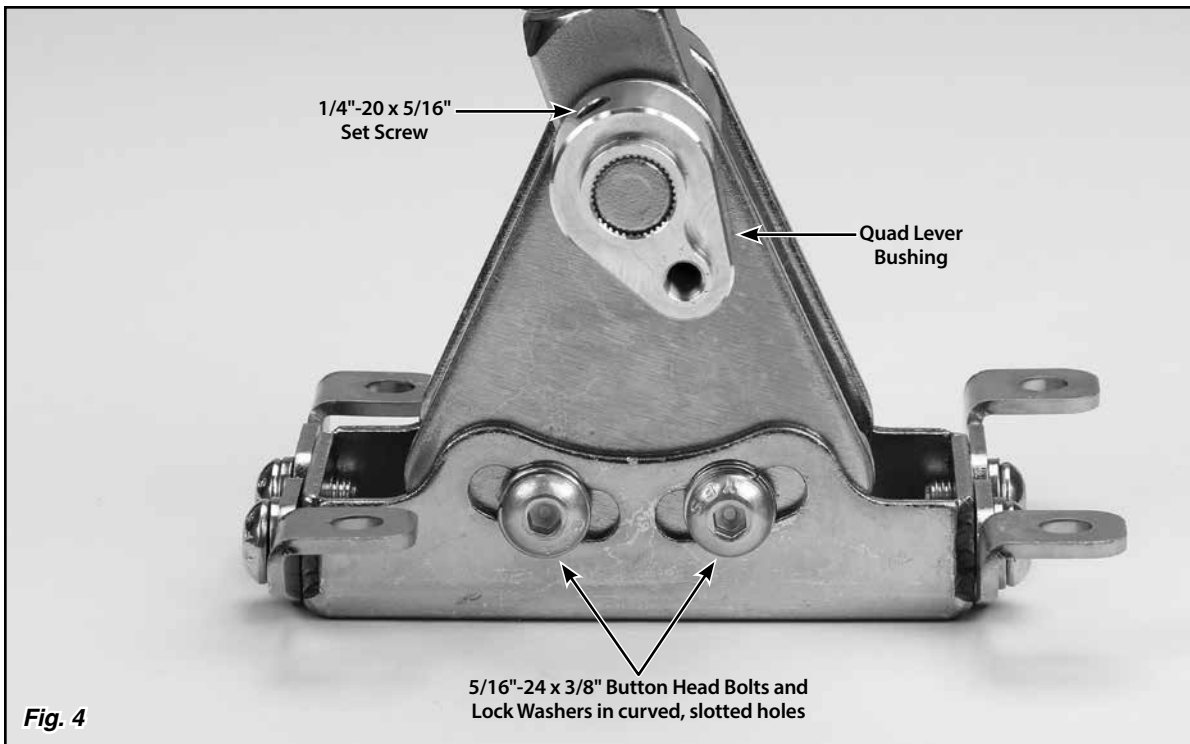

Fig. 4
**Step 5:** Make sure the two 5/16"-24 x 3/8" button head bolts and lock washers that are in the curved, slotted holes in the driver side of the floor mount mounting bracket are tight using a 3/16" Allen wrench. Place the Shifter in the desired location on the vehicle's floor. Make sure the shifter lever will not interfere with the dash when in Park, or with the seat when in low gear. The shifter assembly may be tilted forward or backward if needed by loosening the two 5/16"-24 x 3/8" button head bolts and lock washers that are in the curved, slotted holes in the driver side of the floor mount mounting bracket. Retighten the button head bolts and lock washers in the curved, slotted holes once you have the shifter assembly at the angle you want. **Fig. 4**